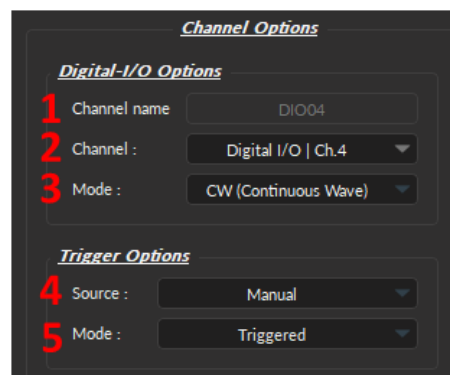

Figure 5.14: *Channel(s) Configuration, Digital I/O Channel Options*
1. The **Channel Name** (Fig. 5.14, 1) allows the user to specify a label for each channel.
2. The **Channel** (Fig. 5.14, 2) identifies the channels available to create a Digital I/O. The channel can be changed by selecting a new one from the drop-down list. Each numbered channel on the physical console corresponds to the same number of digital channels within the software.
3. The **Mode** (Fig. 5.14, 3) identifies the type of signal sent (for output channels) or the way the signal is measured (for input channels). Three modes are available:
1. The **Source** trigger option (Fig. 5.14, 4) allows the choice of a **Manual Trigger** (activated by a user) or an **Input** trigger, coming from a **Digital I/O** channel set in input mode.
2. The **Mode** (Fig. 5.14, 5) defines how the trigger activates a sequence. This includes input sequences, which can be triggered/gated by an outside source.
The parameters contained in the **Sequence Options** depend on the **Channel Mode** (selected in **Channel Options**, Fig. 5.14), as following: